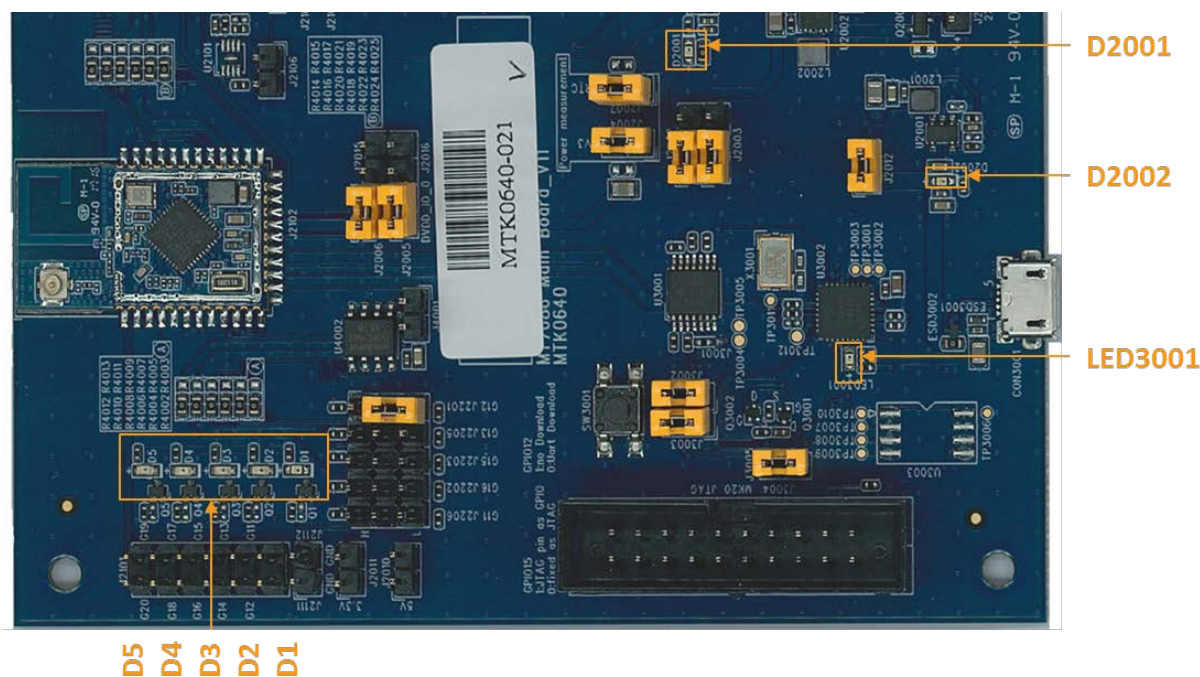

Figure 7. On-board LEDs
The MT7682 HDK has onboard LEDs associated with different functionalities of the board (Figure 7).
- 4) **D1, D2, D3, D4, and D5** are LEDs assigned for user interaction. All LEDs are high active (Figure 7).